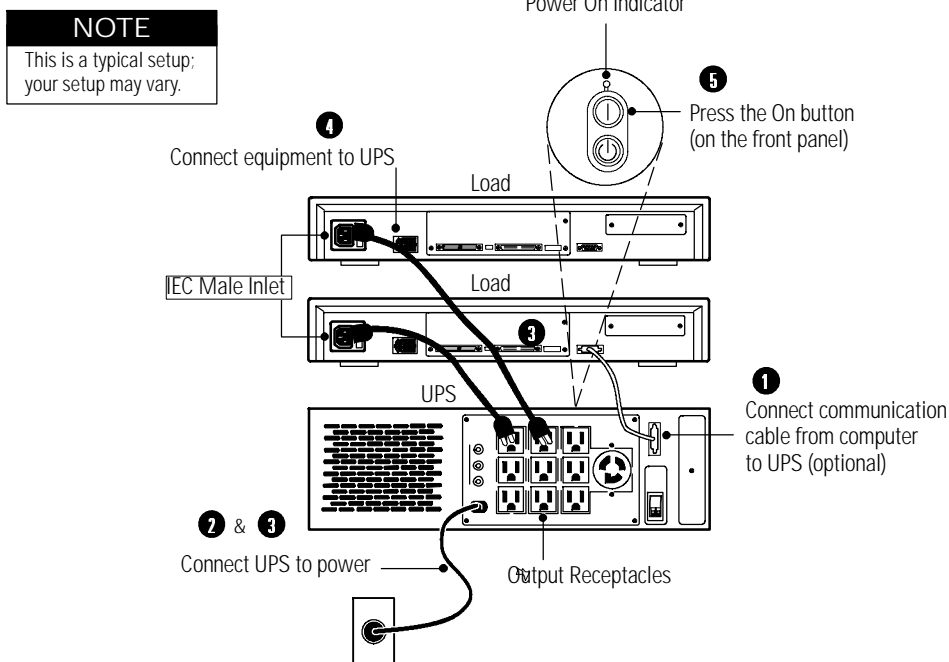

Figure 5. Typical UPS Installation (120V Model Shown)
The following steps explain how to install the UPS. Figure 5 on page 7 shows a typical installation only. See “UPS Rear Panels” on page 8 for the rear panel of each model.
5. Start the UPS by pressing the On | button as shown in Figure 5. The Power On indicator illuminates indicating that power is available from the rear receptacles.